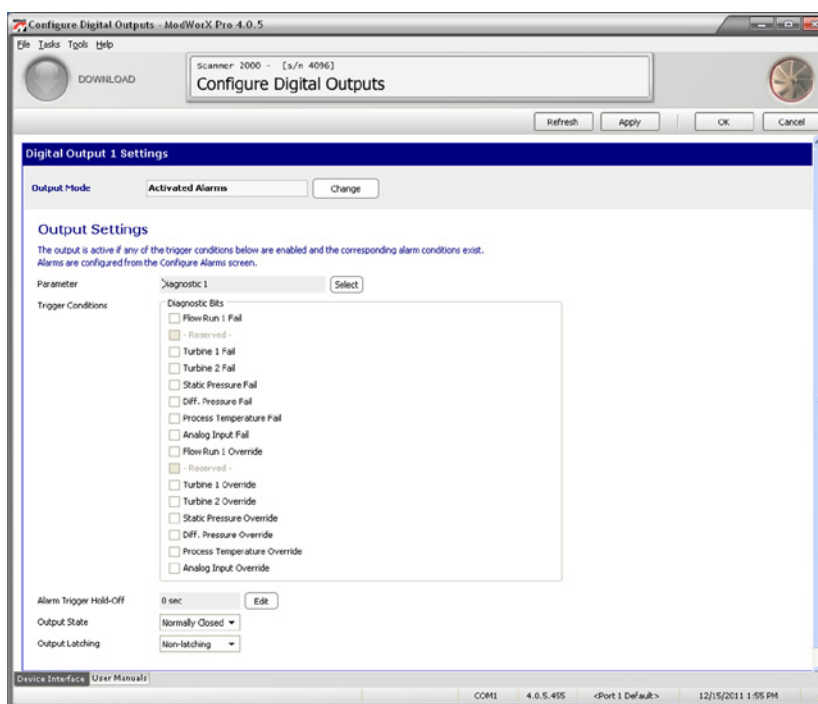

Figure 7.13
- If a diagnostic parameter is chosen in step 3, check the diagnostic bits that you want to generate a digital output (Figure 7.13). Up to 16 diagnostic bits can be selected as triggers for each diagnostic parameter.